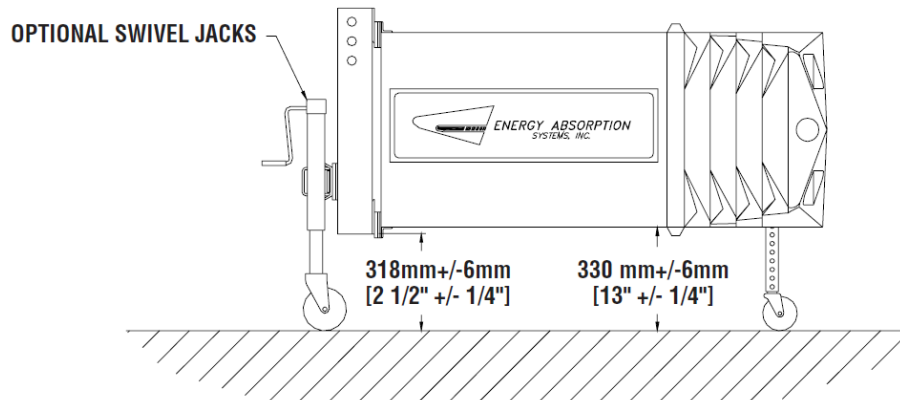

Figure 1
5. The TMA cartridge is shipped assembled to the backup. The first step in the installation process is to remove this assembly from the crate and make it mobile. This is accomplished by carefully removing the crating material and then if the two optional jacks are ordered (P.N. 2724230-0000) attach them to the backup (see referenced drawing no. 35-22-36). Once the jacks have been attached, the unit can be made mobile as shown in Figure 1.